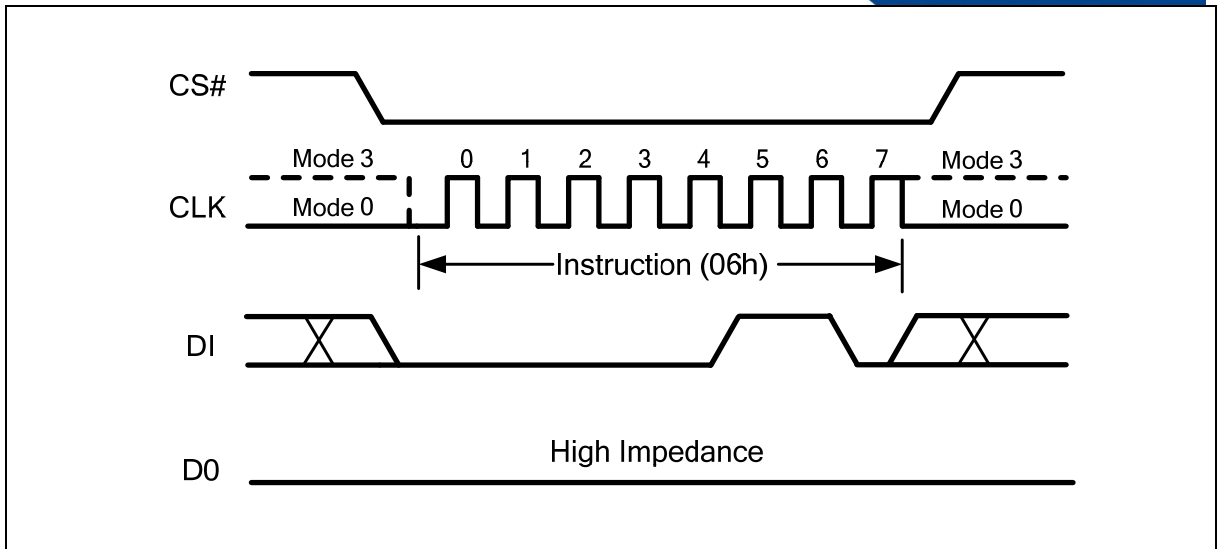

Figure 5 Write Enable Instruction
Instructions vary in length from a single byte to several bytes and may be followed by address bytes, data bytes, and in some cases, a combination. Instructions are completed with the rising edge of edge CS#. Clock relative timing diagrams for each instruction are included in Figure 5 through Figure 19. All read instructions can be completed after any clocked bit. However, all instructions that Write must complete on a byte boundary (CS# driven high after a full 8-bits have been clocked) otherwise the instruction will be ignored. This feature further protects the device from inadvertent writes. Additionally, while the memory is being written, or when the Status Register is being written, all instructions except for Read Status Register will be ignored until the write cycle has completed.
The Write Enable (WREN) instruction (Figure 5) sets the Write Enable Latch (WEL) bit in the Status Register to 1. The WEL bit must be set prior to every Write and Write Status Register instruction. The Write Enable (WREN) instruction is entered by driving CS# low, shifting the instruction code "06h" into the Data Input (DI) pin on the rising edge of CLK, and then driving CS# high.